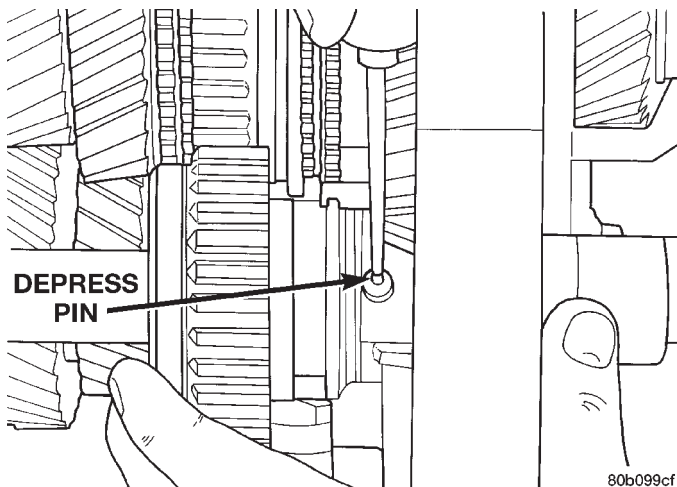

Fig. 92 Depress Pin In Reverse Idler Gear Shaft
(35) Depress compression spring and pin in reverse idler gear shaft (Fig. 92).